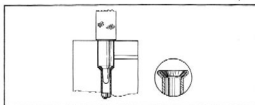

Fig. 10—Finish Flaring Operation
4. Next, use the flare forming tool, J-1280-3, having the 45 degree die at its lower end. Insert the tool in the die and strike firm blows, using a one pound hammer, until the shoulder of the tool contacts the top of the die. The cross section drawing, Fig. 10, shows the second and final forming operation in making a double-lap flare.